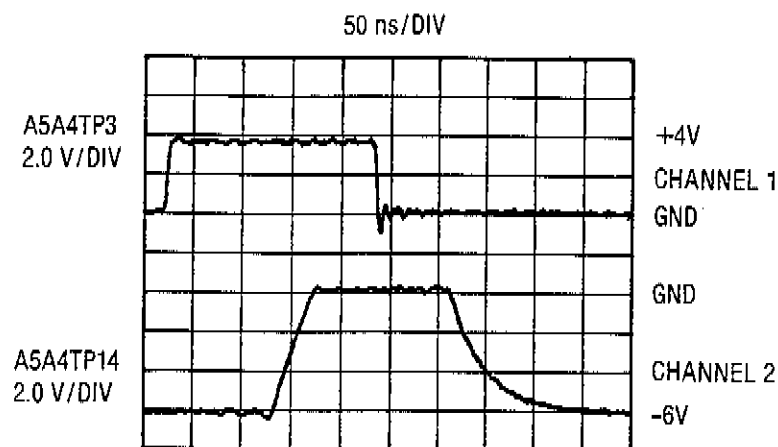

Figure 8-62. Pulse Driver Board, Input Pulse and Sample Pulse
45. Connect Channel 1 of the oscilloscope to A5A4TP3 and Channel 2 to A5A4TP14. Adjust the oscilloscope as shown in Figure 8-62 and compare the oscilloscope display to the figure.